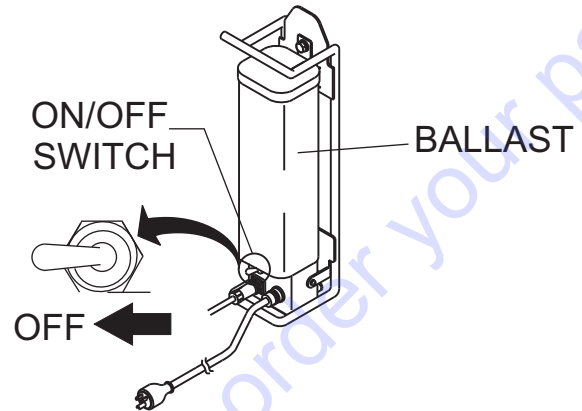

Figure 10. Power OFF/ON Switch (Off Position)
1. Make sure the power ON/OFF switch (Figure 10) located near the bottom of the ballast is in the OFF position.